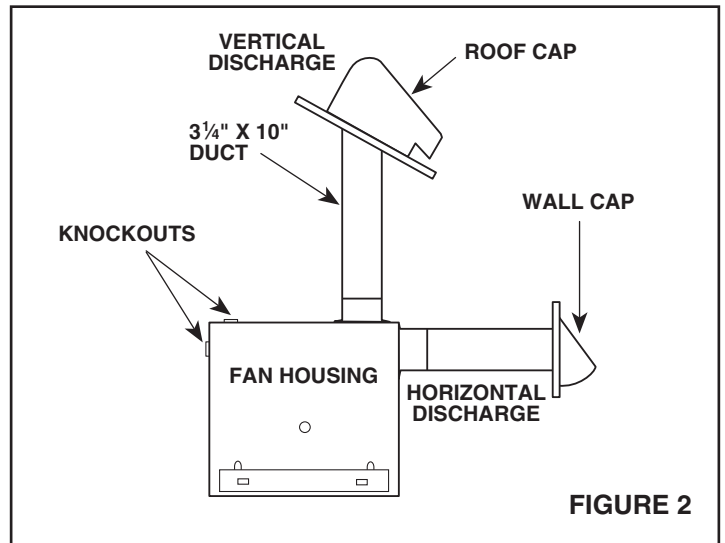

FIGURE 2
- Refer to Figure 2. This unit can be ducted for either vertical or horizontal discharge. Determine the method of discharge that will be used.
3. Refer to Figure 2 and mounting instructions included with caps. Install standard 3¼" x 10" ductwork from damper section to outside wall or through roof and mount appropriate wall or roof cap (optional).
WIRING AND DUCTING – Refer to **Figure 6 for wiring** and to **Figure 2 for ducting**. Plan ducting and wiring before proceeding with installation.